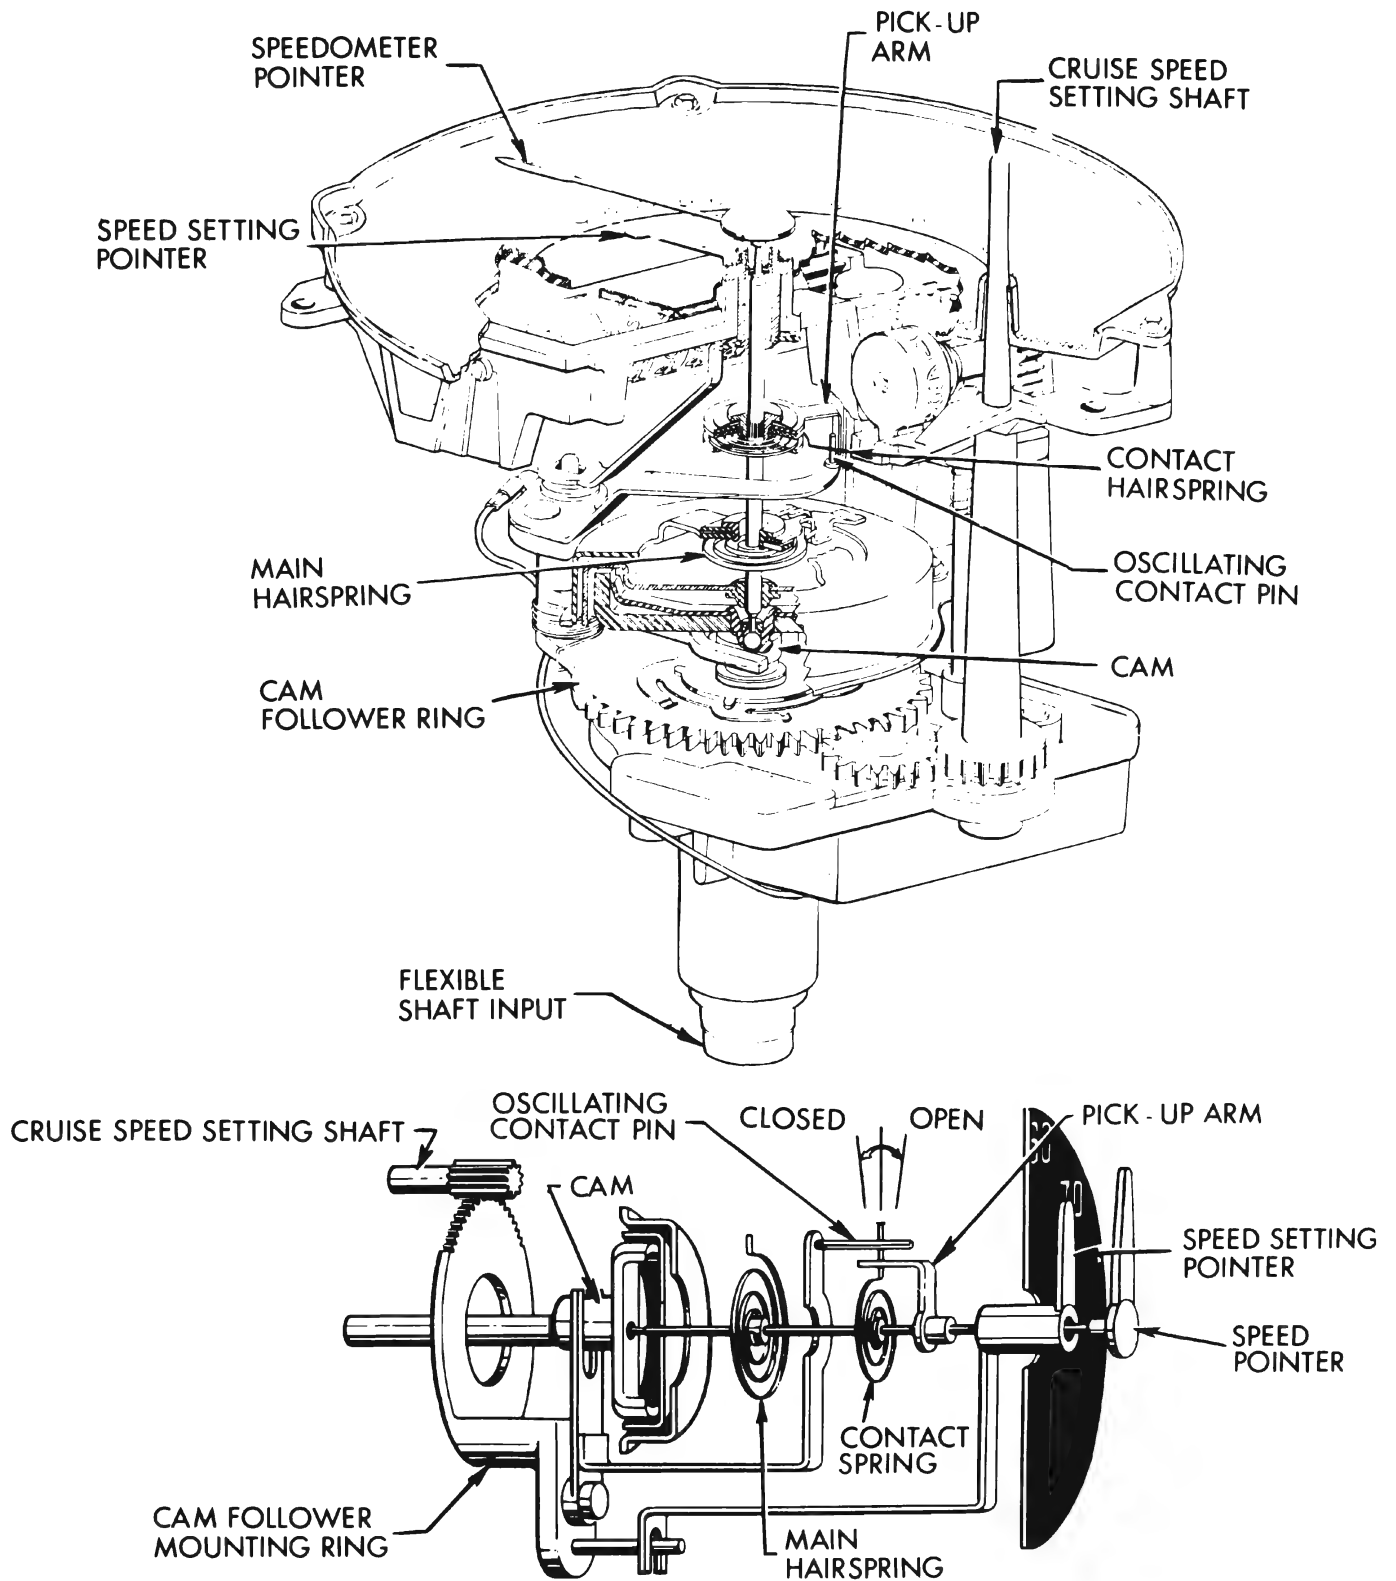

Figure 11-174—Speedometer and Speed Transducer
2. SPEEDOMETER AND SPEED TRANSDUCER - The speed transducer is integral with the speedometer and utilizes a cam, cam follower, oscillating contact spring and pickup arm to control the electrical impulses reflected from the electronic control unit to the power unit. See figure 11-174. Position of the oscillating contact pin, which determines the set speed, is adjusted by rotating the cam follower mounting ring through a gear arrangement with the speed setting shaft and knob assembly. Rotating the cam follower mounting ring also moves the speed setting pointer to indicate the relative position of the oscillating contact pin, and, therefore, indicate the actual set speed.